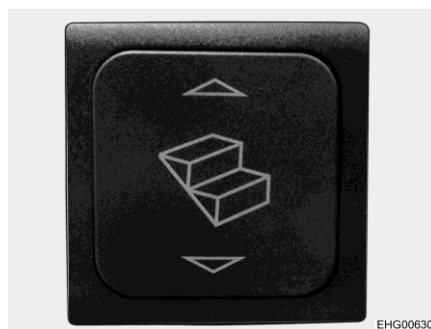

Fig. 6 Operating switch entrance step
- Press the rocker switch (Fig. 6) down until the entrance step has extended completely.
- Press the rocker switch (Fig. 6) up until the entrance step has retracted completely.